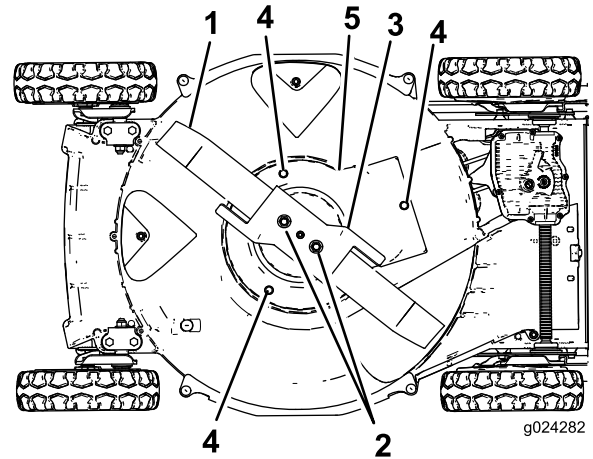

Figure 32
6. Remove the 2 blade nuts, the accelerator, and the blade (Figure 32).
7. Remove the screws that secure the blade-brake-clutch shield to the mower housing (Figure 32).